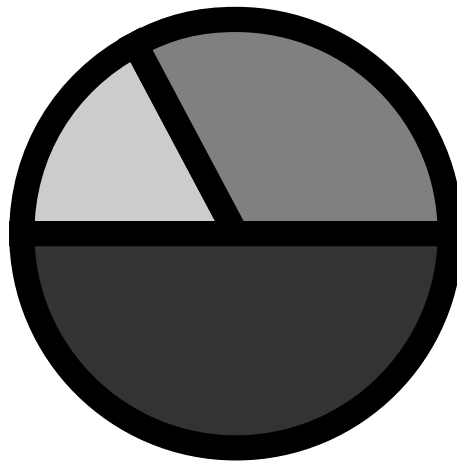

Figure 6b
For example: `-GS3;01;20;02;50;04;80 -GP5;900;2400;600;3;10;20;30` draws a three-segment pie chart. If the attached printer is a PCL color printer, the first segment will be blue (01), the second segment will be red(02), and the third segment will be green (04). The segments will be shaded at 20%, 50%, and 80% respectively. The first segment (value 10) will be 1/6 of the complete circle ($10/(10+20+30)=10/60=1/6$), the second segment (value 20) will be 2/6 of the complete circle ($20/60$), and the third segment will be 3/6 of the complete circle (Figure 6b).